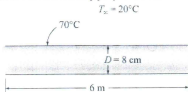

Figure 1
2. 6-m-long section of an 8-cm-diameter horizontal hot water pipe shown in **Figure 1** passes through a large room whose temperature is 20°C. If the outer surface temperature of the pipe is 70°C, determine the rate of heat loss from the pipe by natural convection. [25]